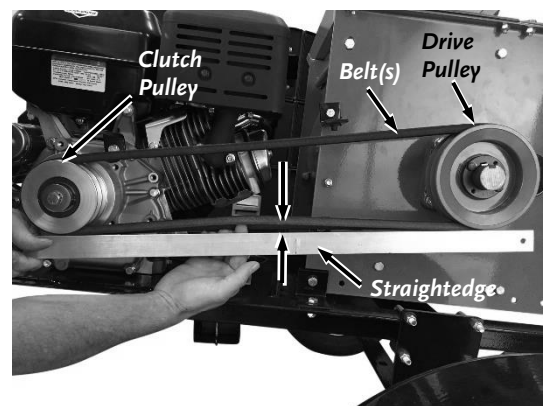

Figure 23
2. Place a Straightedge on the bottom of the Belt from the Clutch Pulley to the Drive Pulley (**Figure 23**).
3. Loosen the Tension Adjuster Bolt, using a 1/2" Wrench and create enough slack in the Belts to remove them from the Clutch and Drive Pulley (**Figure 23**).